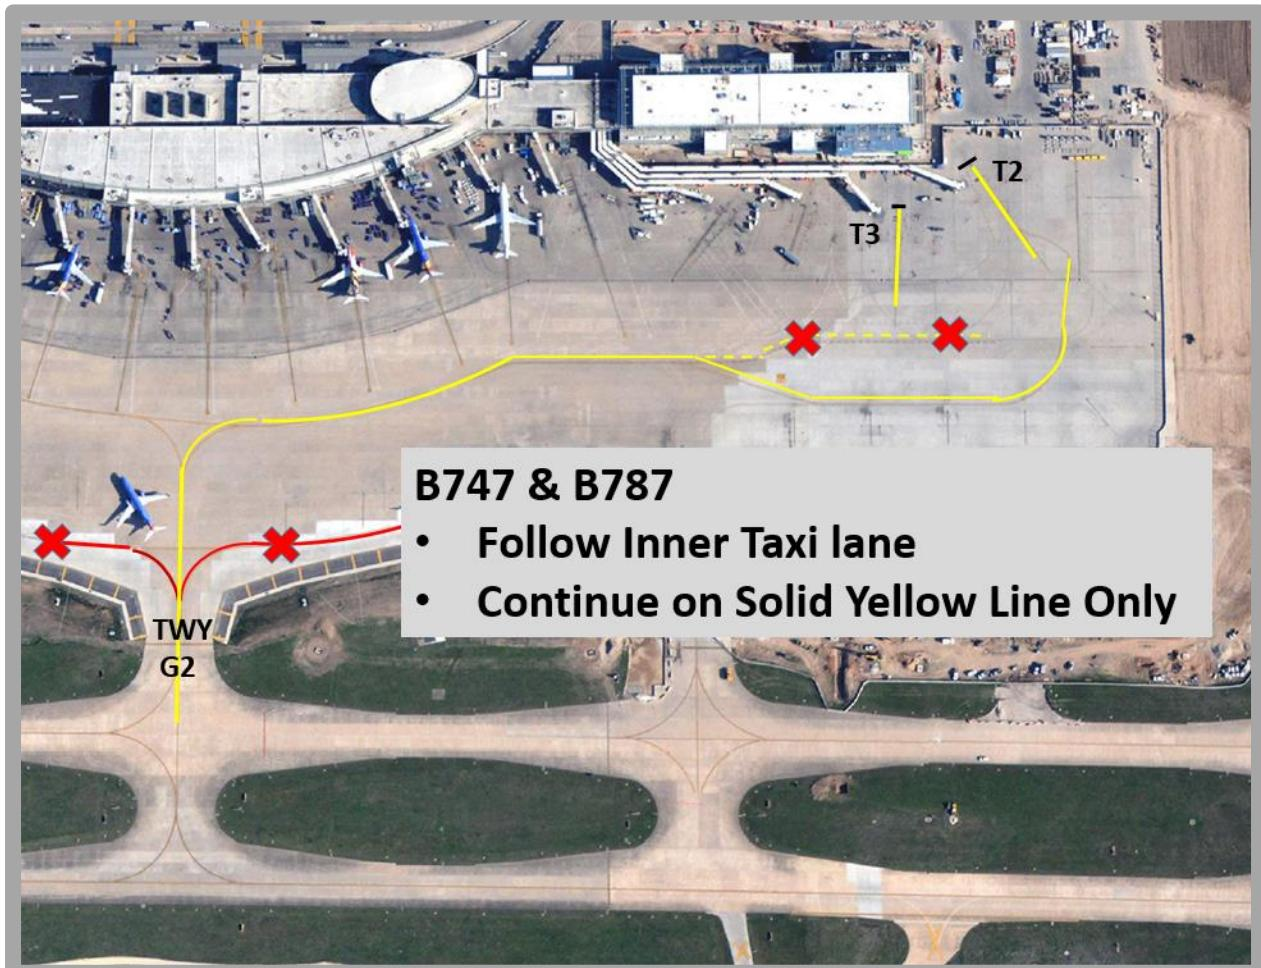

Figure 1 - KAUS Apron Taxiways
- Do not accept dashed taxi lines near stands T2-T4. Only use solid taxi lines when taxiing. See Figure 1.